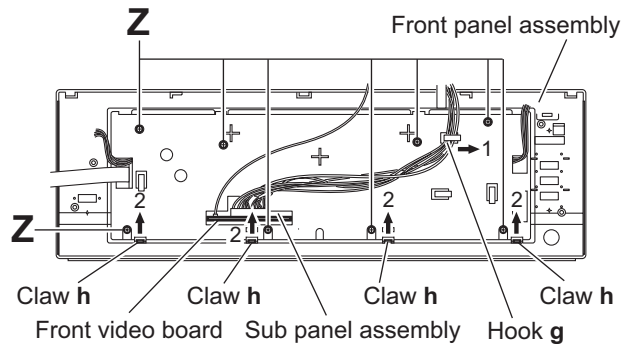

Fig.20
- (2) From the back side of the front panel assembly, remove the eight screws **Z** attaching the sub panel assembly. (See Fig.20)
- (3) Remove the wires of the front video board from the hook **g** of the front panel assembly in the direction of the arrow 1. (See Fig.20)
- (4) Remove the sub panel assembly while releasing the claws **h** in the direction of the arrow 2. (See Fig.20 and 21)